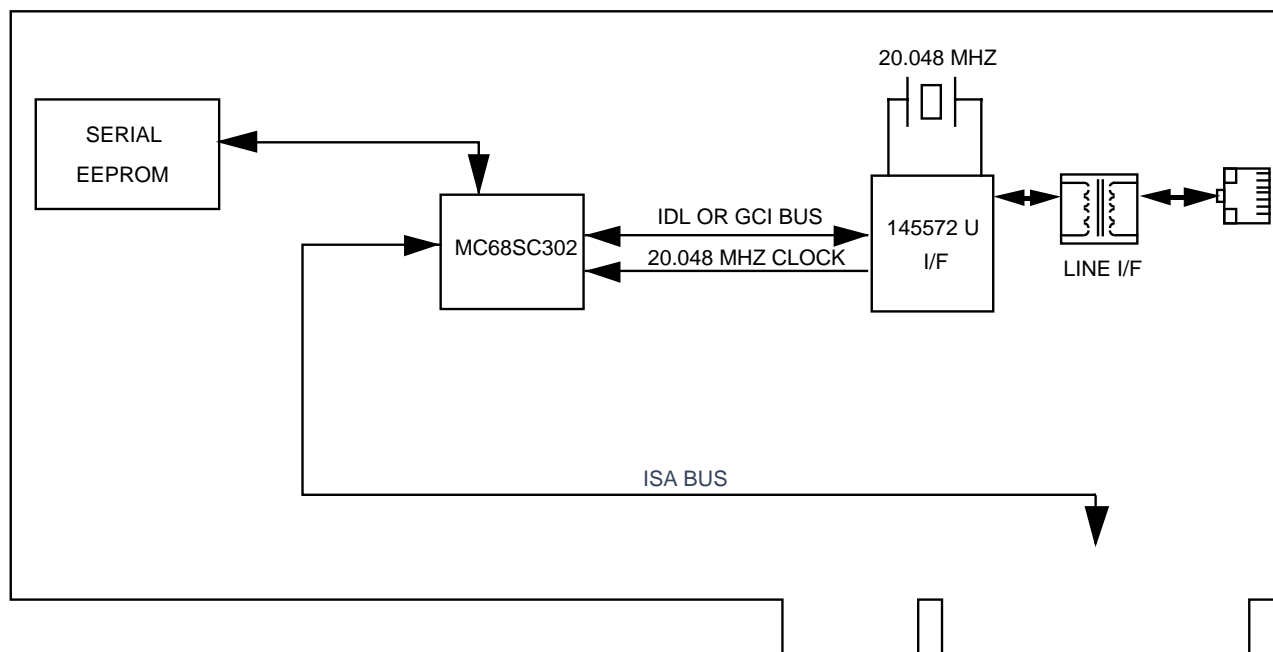

Figure 1-2. Passive NT1 TA Block Diagram
Figure 1-2 shows the 68SC302 in an NT1 terminal adaptor (TA) application using the MC68SC302. The TA supports a basic rate interface (BRI). The 68SC302 is connected gluelessly to the ISA bus connector and performs the Plug and Play interface using the serial EEPROM for storage of non-volatile Plug and Play data. Data and control accesses from the PC to the MC68SC302 can be selectively memory or I/O mapped. Only one clock source (crystal or oscillator) is needed for a simple terminal adaptor.